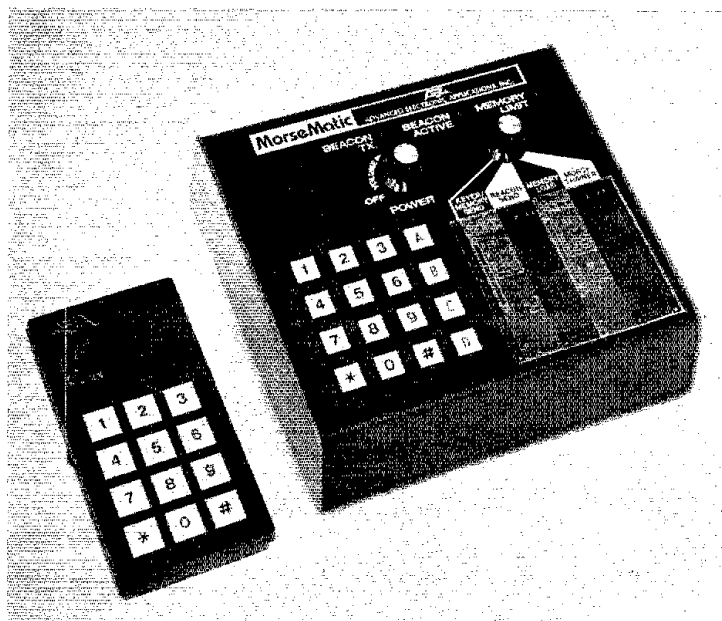

Fig. 1 — Microcomputer controlled, the MM-1 and MK-1 provide a multitude of features which should satisfy any cw operator.
□ In Fig. 1 of "IMUS Control," July 1980 *QST*, the identity of U1 was omitted. U1 is a 1458 dual op amp (Radio Shack part number 276-038).